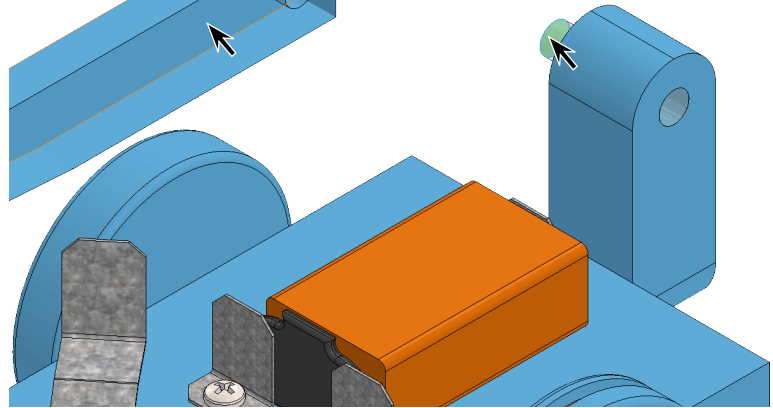

Fig. 15
Step 7. Click **end face of Axle**, then **hide face of Cross Support** and click **right face**, Fig. 15.